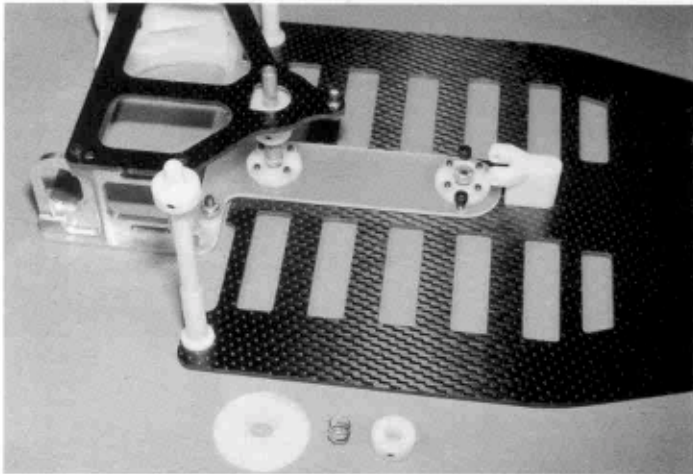
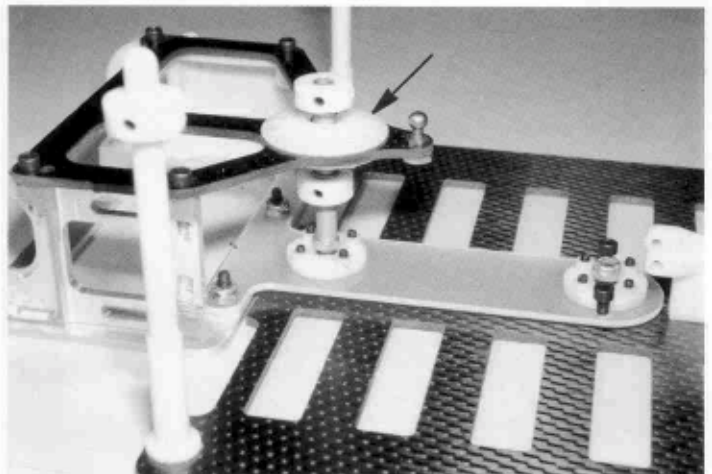

Fig. 38
Fig. 39
□ **Figs. 38 & 39**— Install the dampner washer on the aluminum tube with the smooth side towards the bracket. Then slip on the spring and collar so it looks as in Fig. 39.